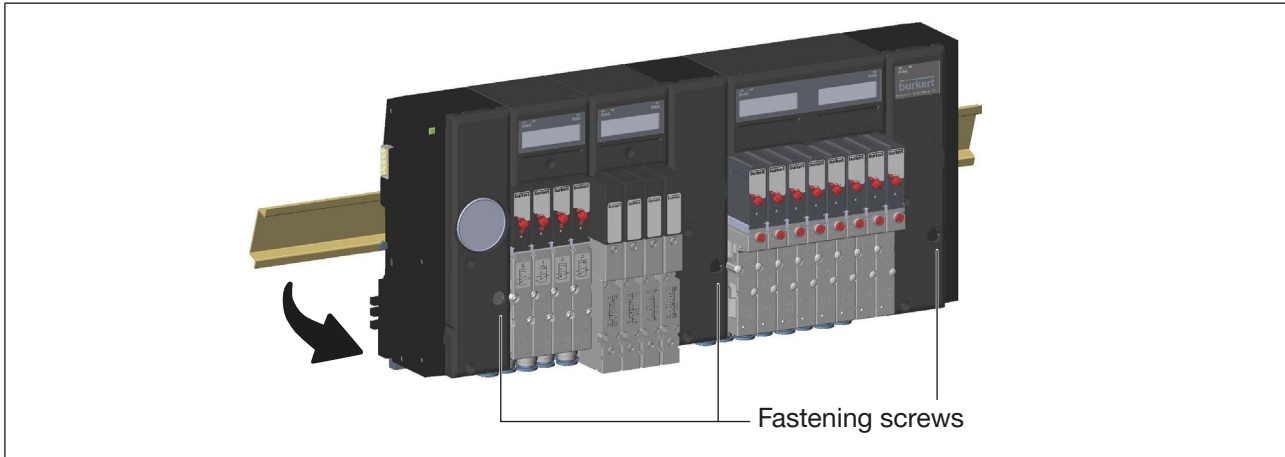

Figure 13: Releasing the valve block from the standard rail
- Make sure all the fastening screws of the valve block (see “Figure 13”) are turned all the way counter-clockwise.
- Turn the fastening screws of the valve block (see "Figure 13") carefully all the way counter-clockwise. **Hold the valve block! The valve block is not connected securely to the standard rail after loosening the fastening screws.**